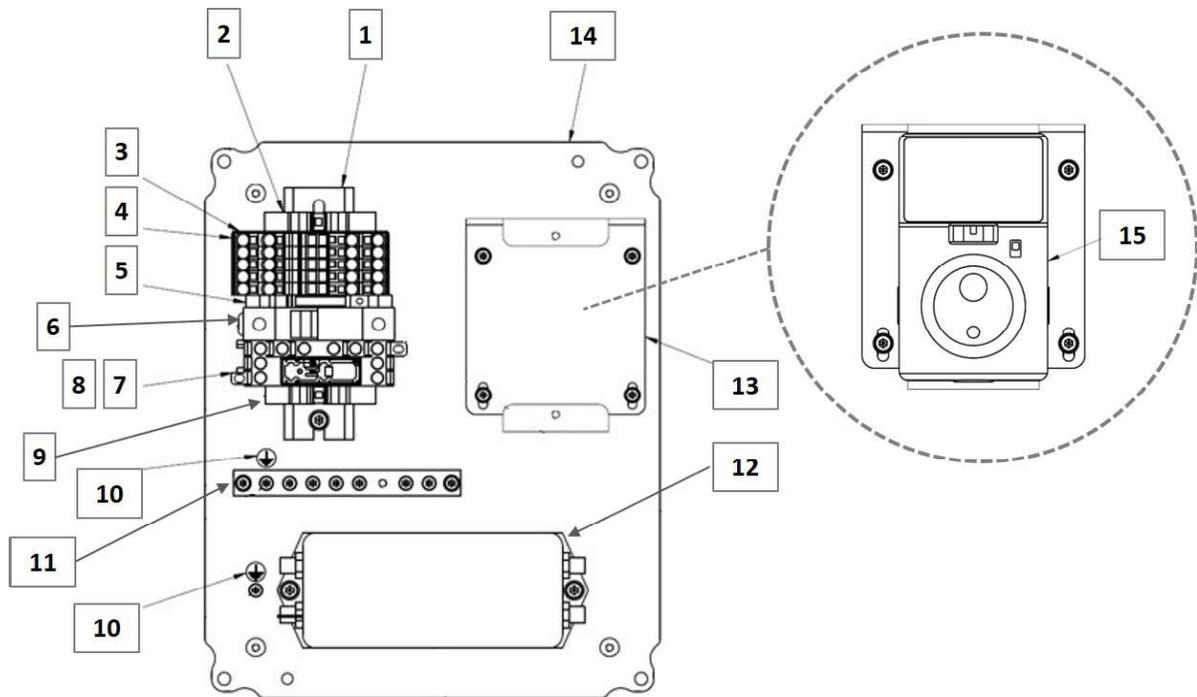

FIGURE 7-13. CONVEYOR MOTOR OUTFEED PANEL, P/N 3-009090
Conveyors may be configured with a motor controller drive (Figure 7-13 item 15) with either 110V or 220V. The controller drive is mounted to the motor sub panel (item 13).